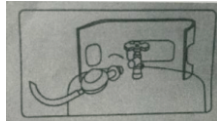

Fig2
2. Rotate the pressure reducing valve to connect the pressure reducing valve to the corner valve of the gas bottle (as shown in Figure 2)